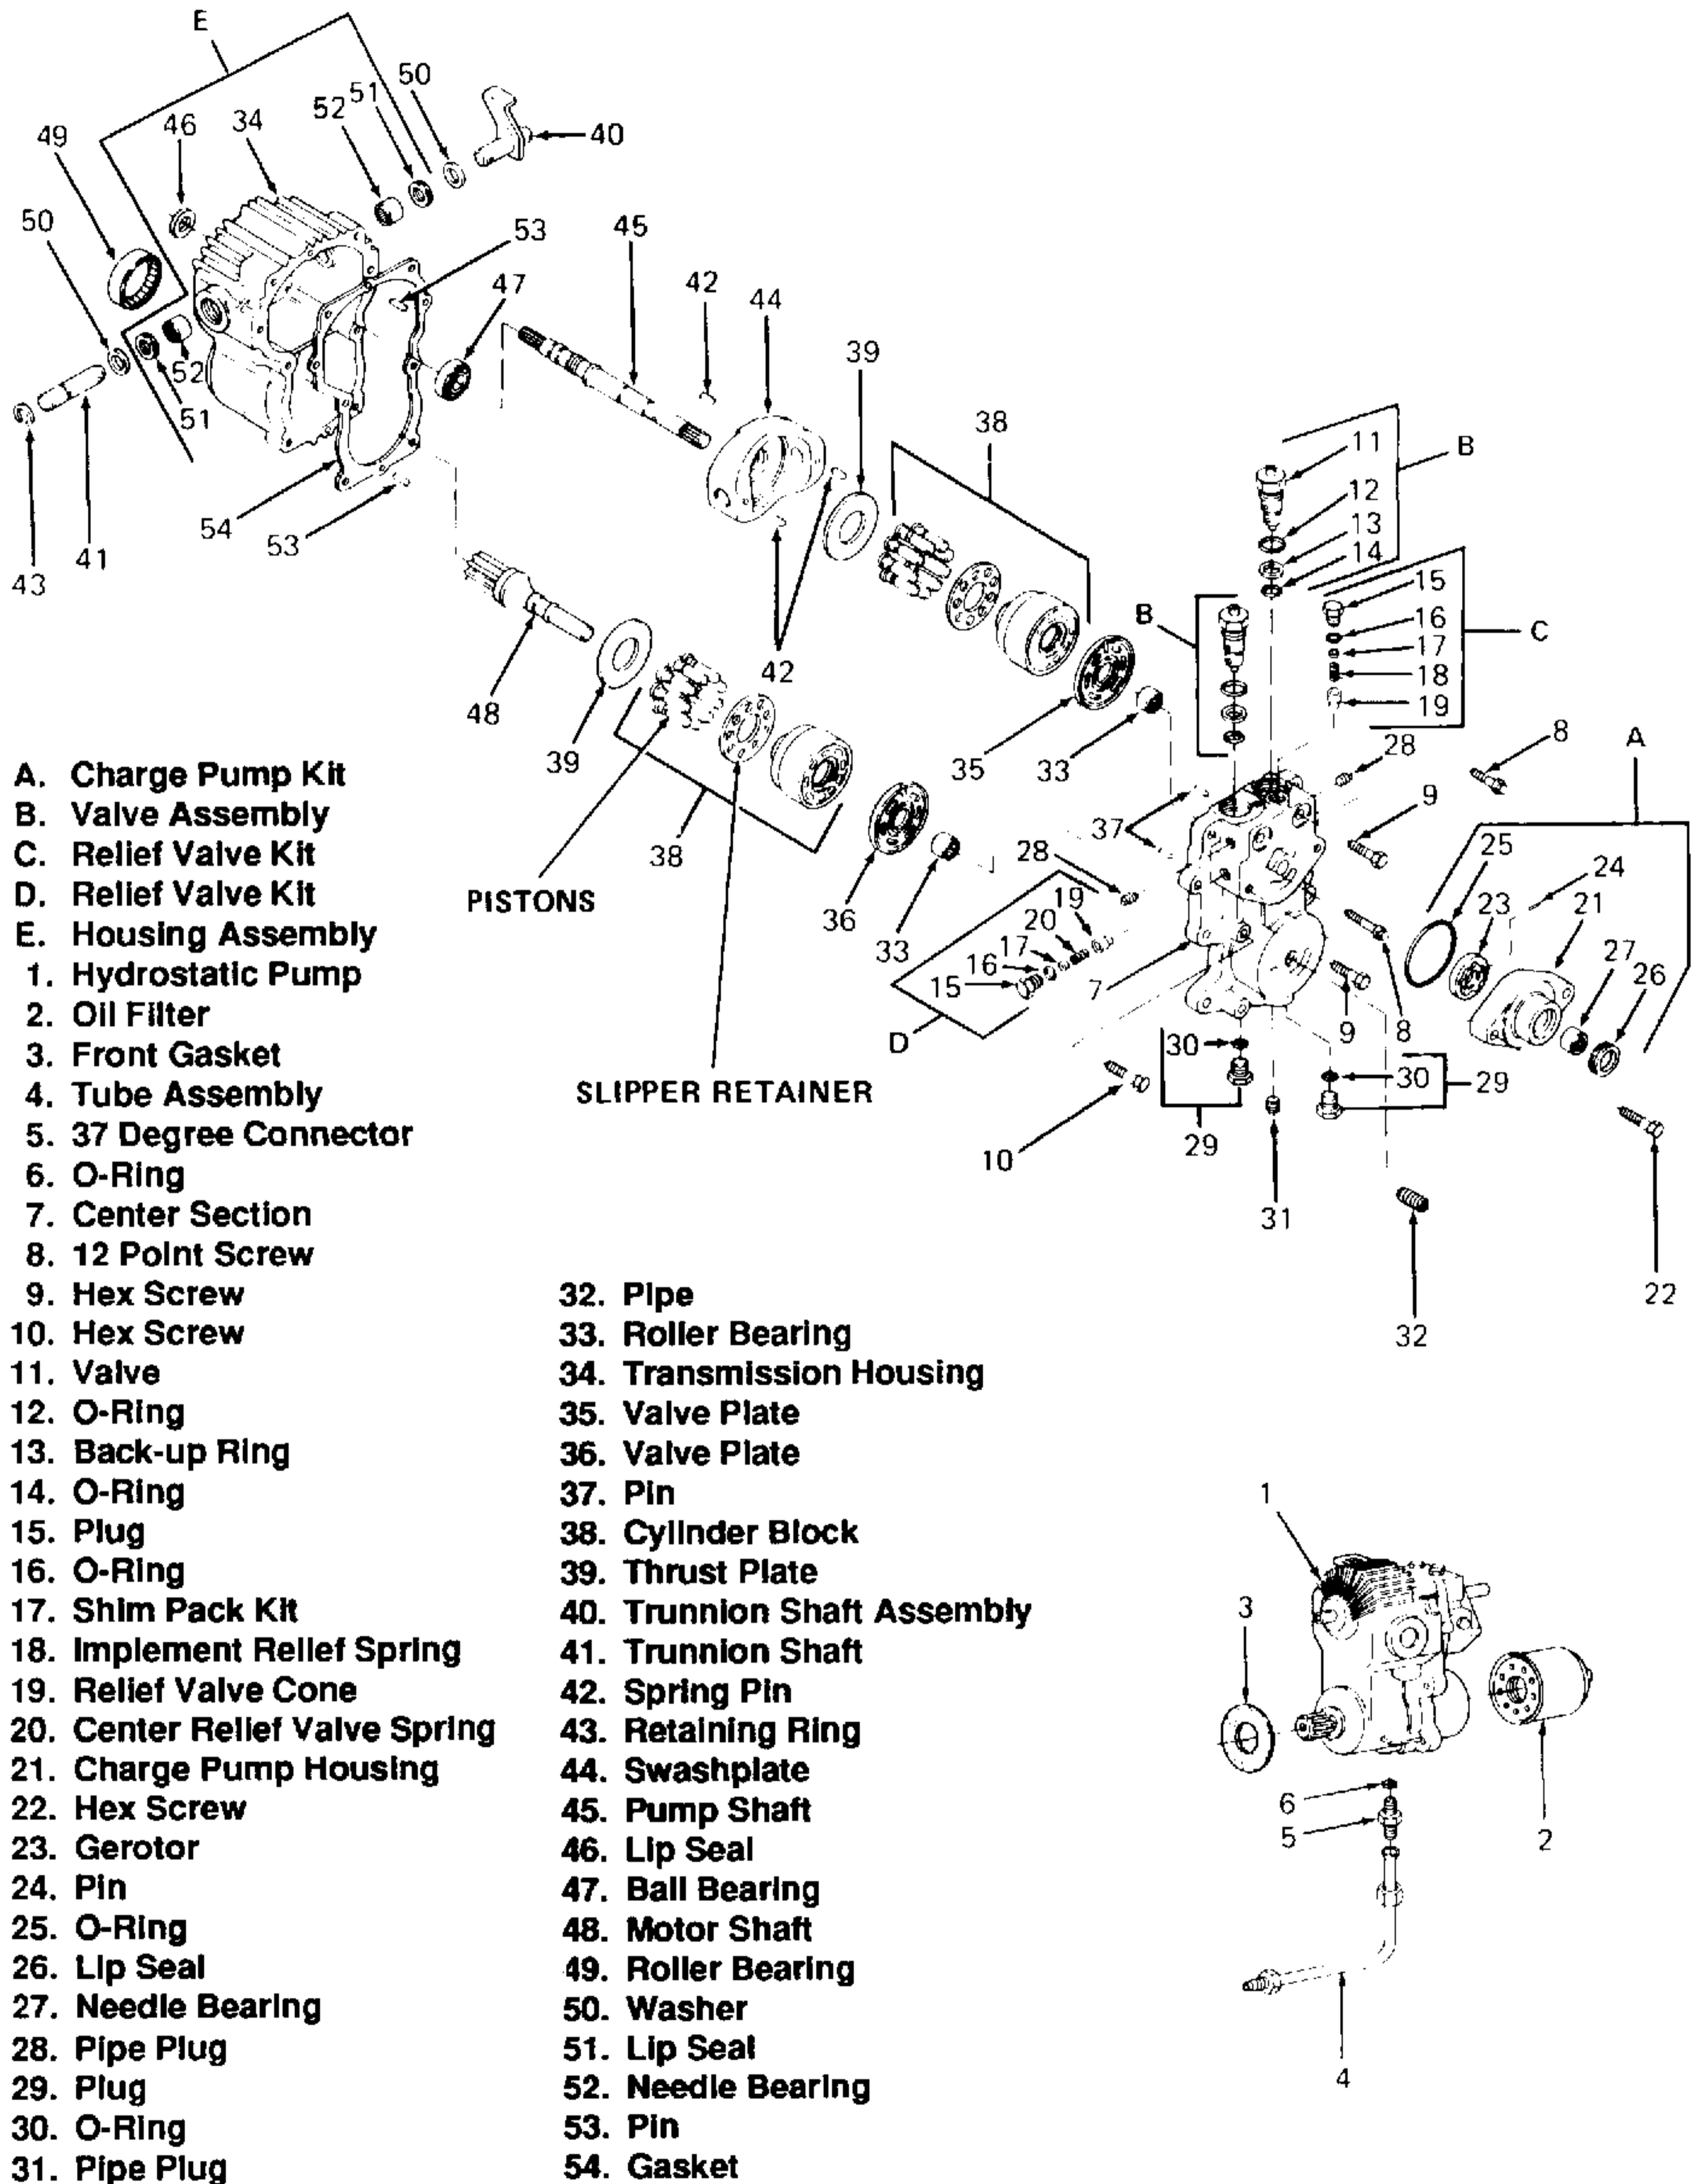

Figure 5-86. Hydrostatic Transmission (Models 2082 and 2182).
4. Place a pan under tube assembly (4, Figure 5-86) to collect oil. Loosen tube assembly by removing compression nut and rotate tube out of way.
5. Remove oil filter (2).
6. Remove four hex patch lock bolts which secure hydrostatic pump (1) to adapter housing. Lift pump out of tractor.
c. Disassemble trunnion shafts (40 and 41, Figure 5-86) as follows:
- (3) Remove retaining ring (43, Figure 5-86) and trunnion shafts (40 and 41).
- d. Remove swashplate (44) and drive out remaining pin (42).
- e. Remove pump shaft (45) and ball bearing (47).
- f. Remove and discard lip seal (26).
- g. Remove motor shaft (48) and roller bearing (49).
- h. Remove washer (50), lip seal (51) and needle bearing (52). Discard seal.
- i. Remove pins (53) and gasket (54). Discard gasket.
7. Inspect cylinder blocks (38, Figure 5-86 and 1, Figure 5-81) as follows:
8. Inspect thrust plate (39, Figure 5-86) for wear. Use fingernail or sharp pencil across face of thrust plate. If wear is felt, replace thrust plate.
11. Inspect transmission housing (34) for cracks.
13. Inspect tube (4) for damage. Replace if damaged.
- f. Position swashplate (44) in transmission housing.
- (1) Install trunnion shafts (40 and 41) and retaining ring (43).
- (2) Secure trunnion shaft (41) to swashplate (44) with one pin (42). Secure trunnion shaft (40) to swashplate with two pins (42).
- h. Install thrust plate (39) on motor shaft (48) and pump shaft (45).
- i. Assemble cylinder blocks (38, Figure 5-86 and 1, Figure 5-81) as follows:
- (3) Install slipper retainer and pistons.
- (4) Install a cylinder block on motor shaft (48, Figure 5-86) and pump shaft (45).
- 4. Assemble center section (7, Figure 5-86) as follows: